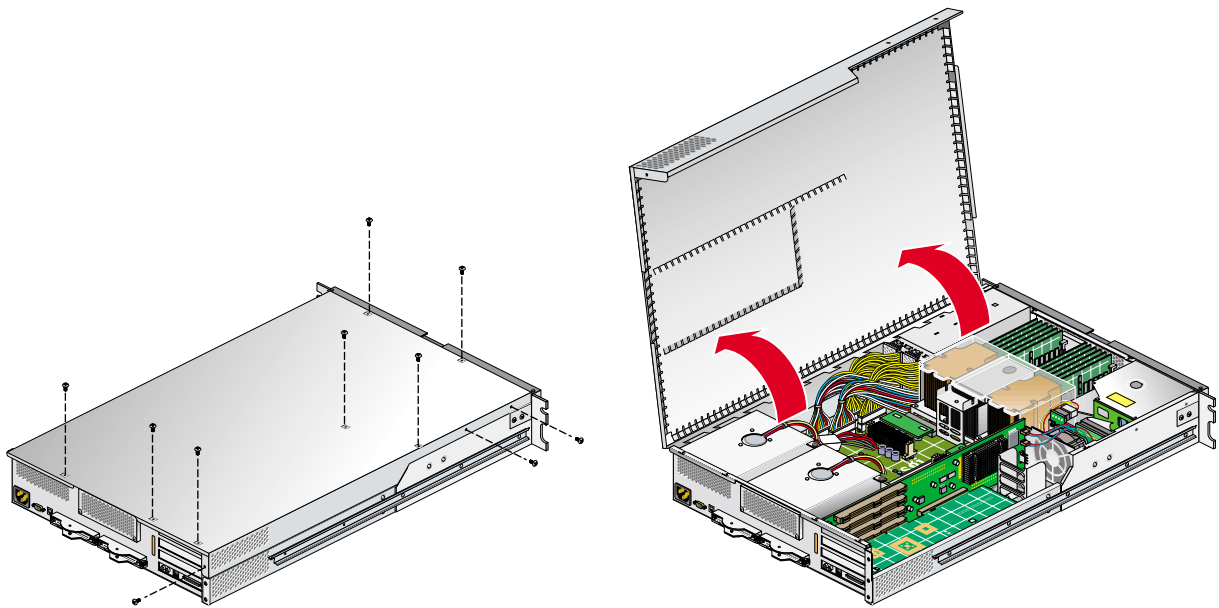

Figure 4-1 Opening the System Cover
1. To remove the module's top cover and access the internal system components, remove the ten Phillips screws as shown in Figure 4-1.